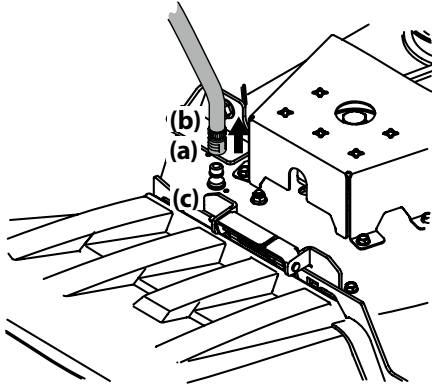

Figure 4-4
3. Pull back the lock collar (a) of the nozzle adapter (b) and push the nozzle adapter (b) onto one of the deck wash nozzles (c) at either end of the tractor deck. Release the lock collar (a) to lock the nozzle adapter (b) on the deck wash nozzle (c). See Figure 4-4.